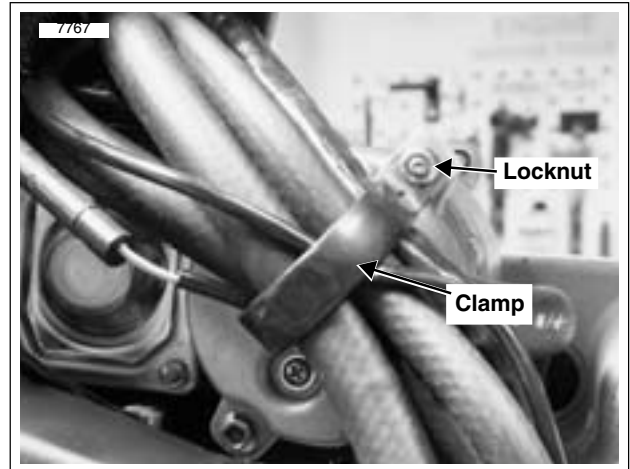

Figure 5-9. Oil Hose Clamps
5. See Figure 5-9. Remove locknut and clamp that secure oil hoses on right side of motorcycle.